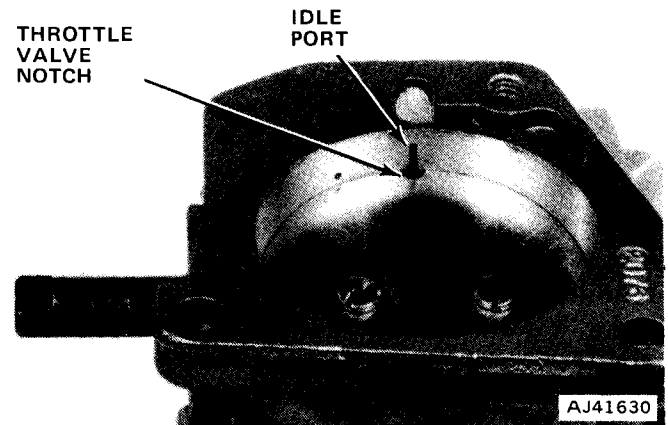

Fig. 4-24 Throttle Valve Alignment
(1) Install throttle shaft and lever assembly with torsion throttle return spring and bushing in the throttle body flange.
(2) Position throttle plate on throttle shaft with notch in plate aligned with slotted idle port in the throttle body flange (fig. 4-24).